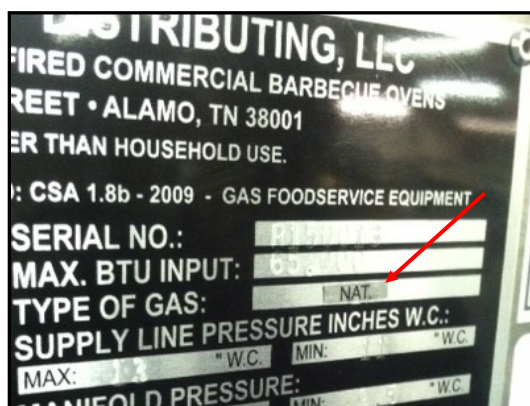

Figure 16: Applied on Plate
12. Apply the new Gas Type Label on the smoker data plate (figure 16).